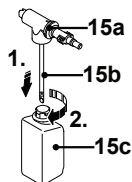

Fig. 35-2
2. Insert the sprayer head in the tank body (15c) and securely fit the tank body by turning it clockwise to lock it in place (Fig.35-2).